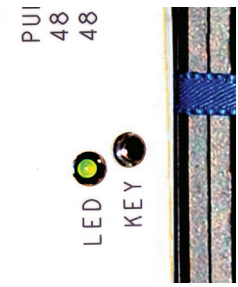

Fig. 5.4
7. Press the KEY button once. (Figure 5.4)